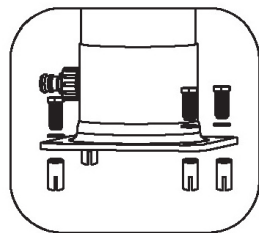

FIGURE 1
2. Mount the shower base to concrete slab or wood base with four bolts, nuts and gaskets. Recommend use wrench. (FIGURE 1)
5. Attach hose connector to inlet of shower. (FIGURE 1)